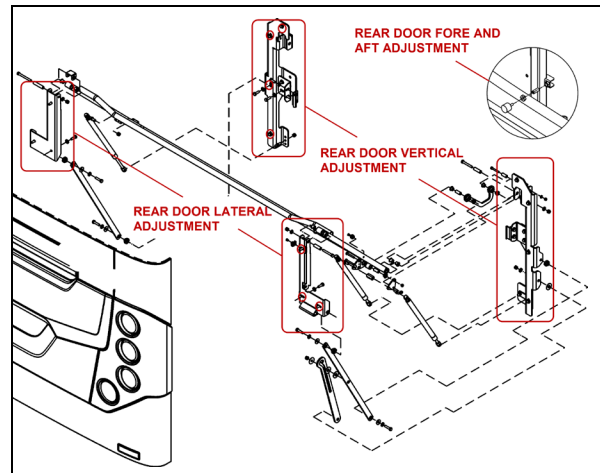

FIGURE 113: ENGINE COMPARTMENT DOOR
1. To adjust the door VERTICAL position, loosen the bolts (4 on each side) holding the door supporting arm and gas springs bracket to the *vehicle structure* (Figure 113).
2. To adjust the door LATERAL position, loosen the bolts (3 on each side) holding the door supporting arm and gas springs bracket to the *door* (Figure 113).
3. Adjust the door FORE & AFT position by screwing/unscrewing the rubber door stops on each side of the door opening (Figure 113).